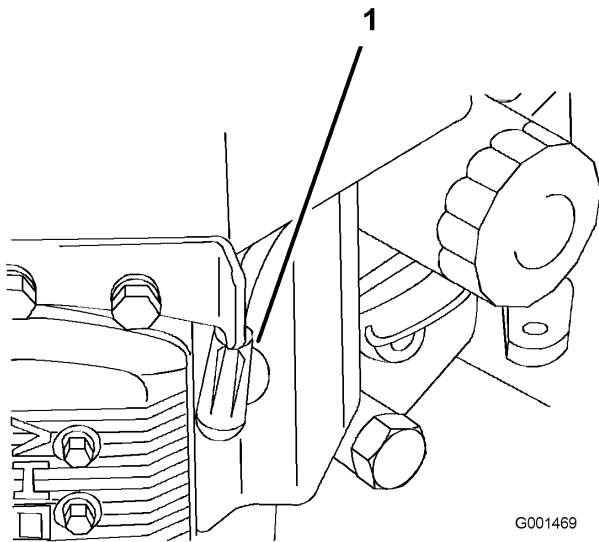

Figure 23
3. Disconnect the wires from the spark plugs (Figure 23).